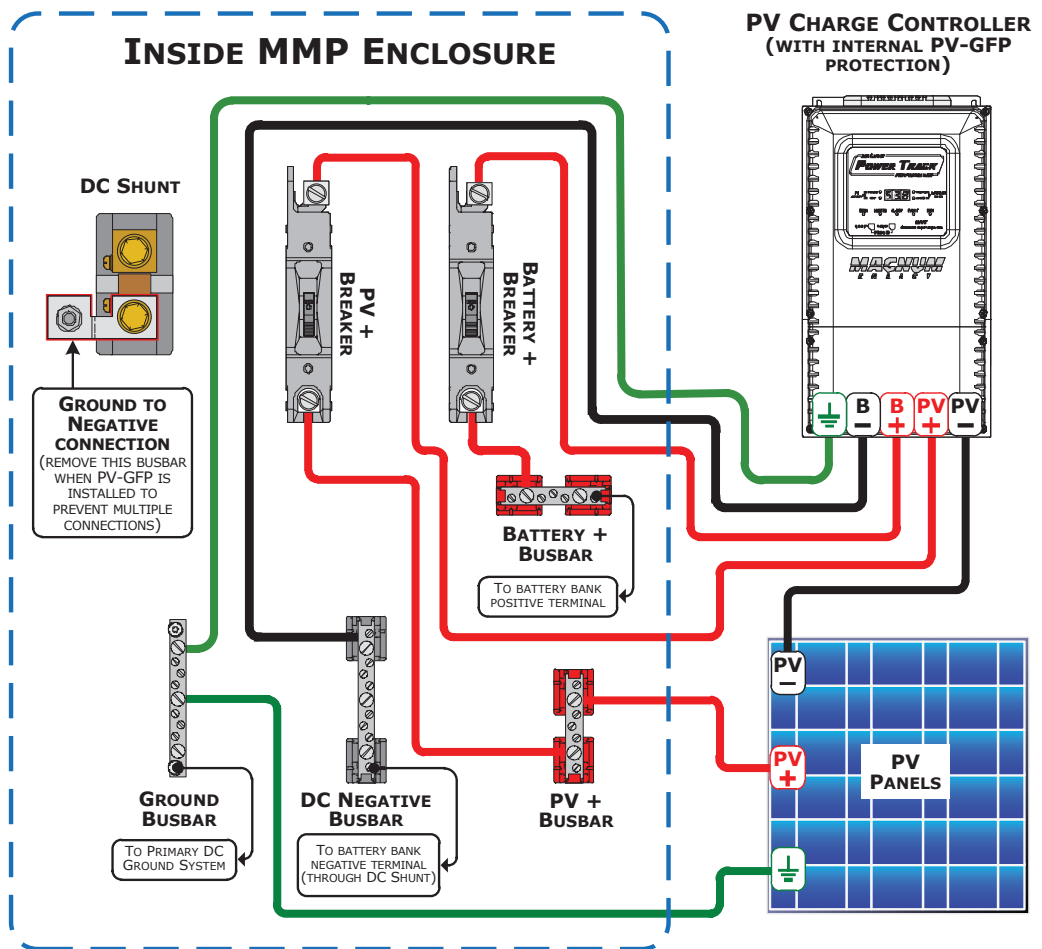

Figure A6-3, Wiring DC Breakers
4. Wire the breaker(s) to the DC circuit, use Figure A6-3 to assist in wiring the breaker.